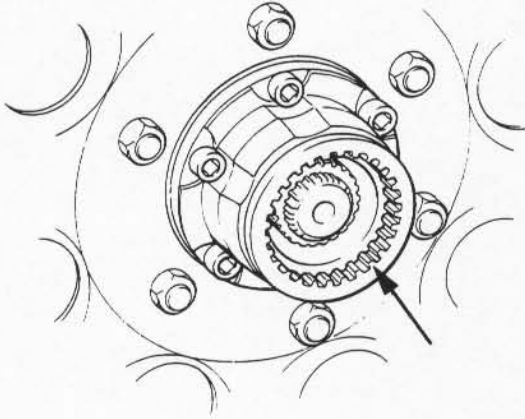

Fig. 17-5-31
4. Confirm that slide gear of each automatic free wheeling hub at right and left is slid toward hub body-inside so that slide gear spline is completely disengaged from hub body spline (i.e., each automatic free wheeling hub is in the free condition). (Fig. 17-5-31)